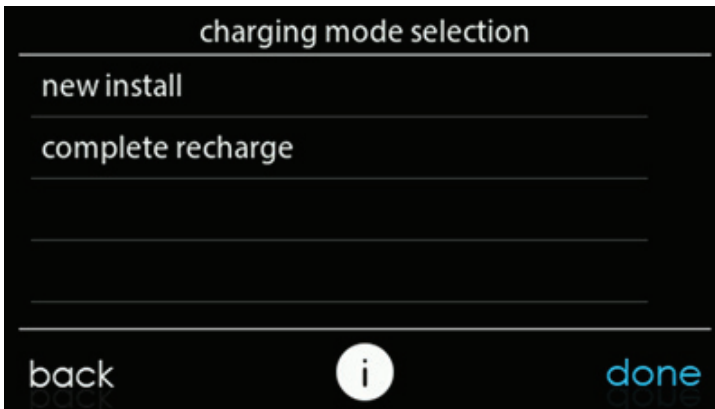

Fig. 18 – Charging Mode Selection
12. If this is a new install, i.e. the ODU is factory charged, then select "new install" in the "charging mode selection" screen (see Fig. 18)